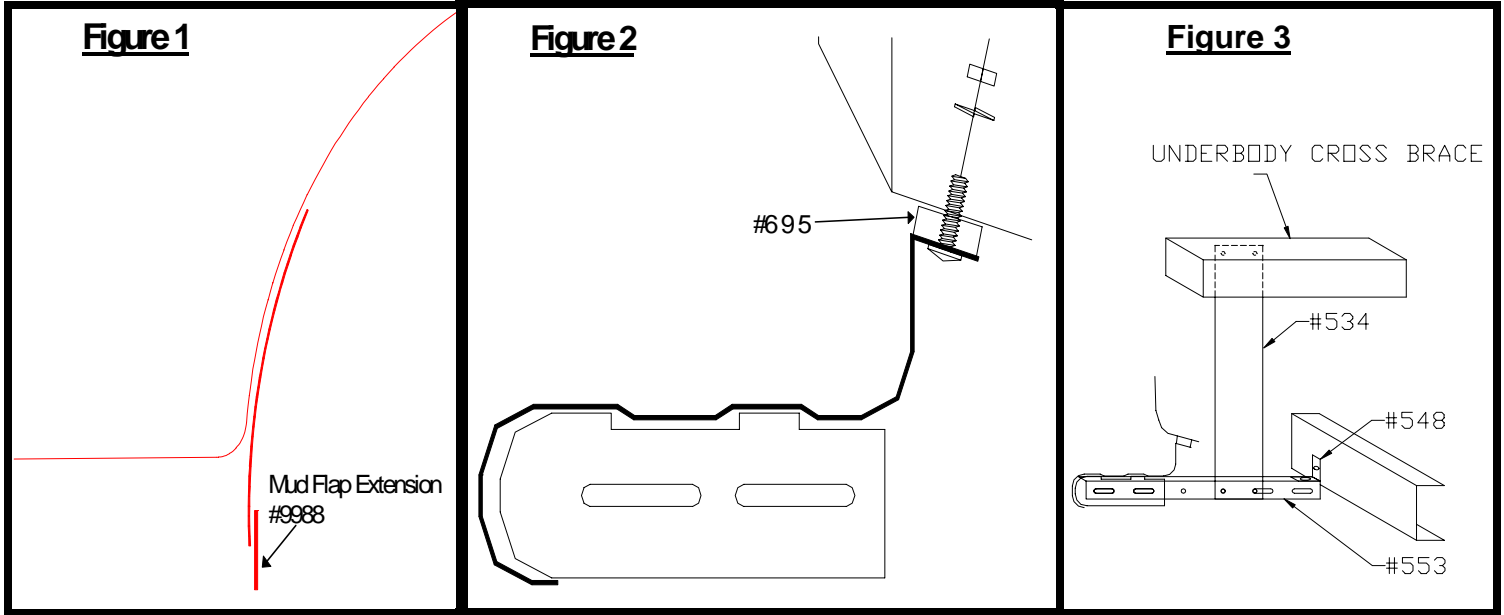

Figure 4
Step 1: Form the mud flaps to conform to the wheel well opening. **(SEE FIGURE 1)** Then bolt the stainless steel mud flap to the rear of box board using 1/4" x 1-1/4" SS slot head screws, lock washers, and nuts. Now bolt an (#7811) end caps to the front of the box board, using two 1/4" x 1" screwdriver head bolts, lock washers, and nuts. **(SEE FIGURE 4 & 5)**
Step 5: Bolt a 14-3/4" long angle brace (#553) to the braces located on the box board at 5-3/8" and 23-1/2" from the front of the box board, using hex head bolts, lock washers, and nuts. On the 14-3/4" angle brace (#553) located at 5-3/8" attach a 2" angle bracket (#548) to the end next to the frame. Make sure the box board and cab board line up, also that the box board is level outward from the vehicle. Now adjust the 2" angle bracket (#548) so that it is tight against the frame, it is optional to attach the 2" angle to the frame with hex head bolt, lock washer, and nut. **(SEE FIGURE 4)** Now bolt 3" X 16-1/4" flat brace (#534) to 14-3/4" angle braces (#533). **(SEE FIGURE 4)** Attach the other end of the (#534) flat brace to the vehicles underbody cross braces, then install the 1/4" x 3/4 hex head self drill and tap screws with a lock washer.